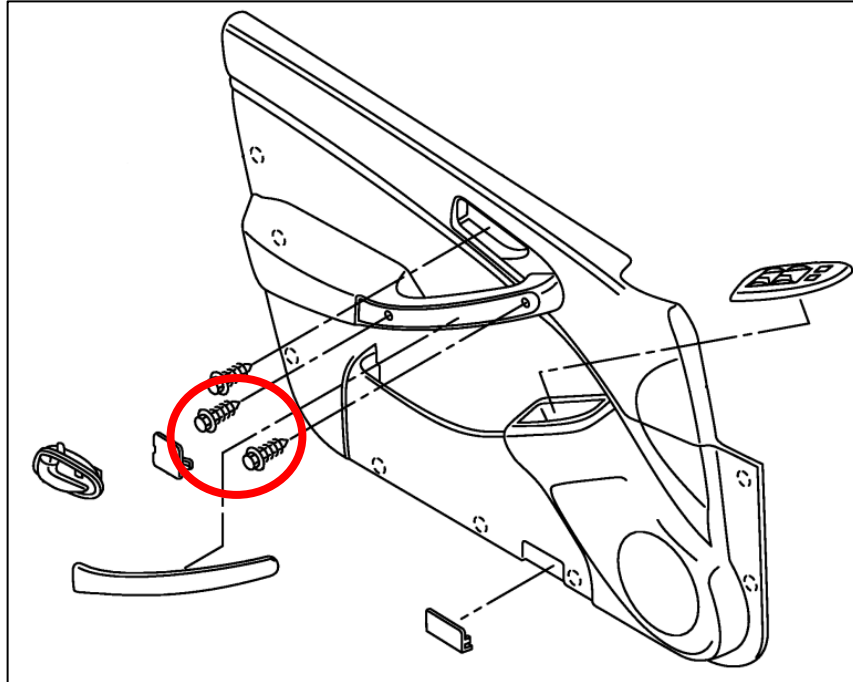

Figure 22
8. Remove the (2) two 10mm Bolts securing the Door Panel to the Door. *Figure 22.*